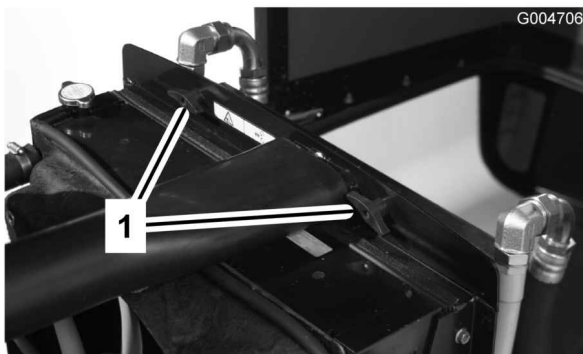

Figure 61
2. Remove the knobs (Figure 61) securing the oil cooler to the frame.